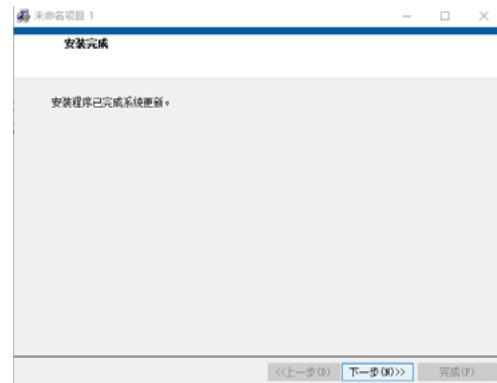

Figure 5.8 Set-up wizard
3.2.6 Wait for installation to complete, and then click on “Next” as shown in Figure 5.8.